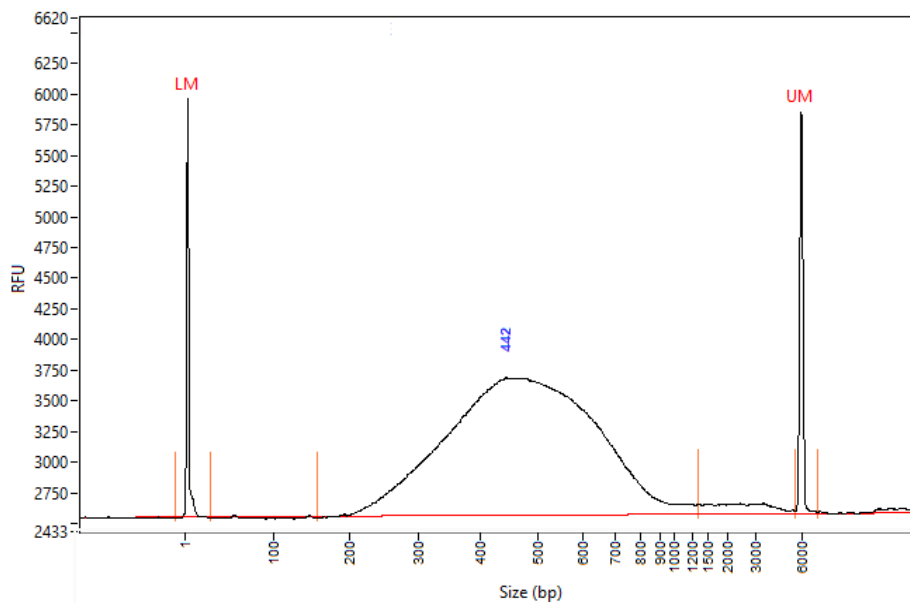

Figure 2. Electrophoresis diagram detected by Fragment Analyzer with the main peak ranging from 200-800 bp and the maximum at 442 bp.
2. Determine the fragment size profile (e.g. with instruments such as TapeStation, Bioanalyzer or Fragment Analyzer) to check for appropriately fragmented and adapter-ligated DNA. A typical library displays a single peak between 200-800 bp with the maximum at ca. 350-450 bp (see Figure 2).